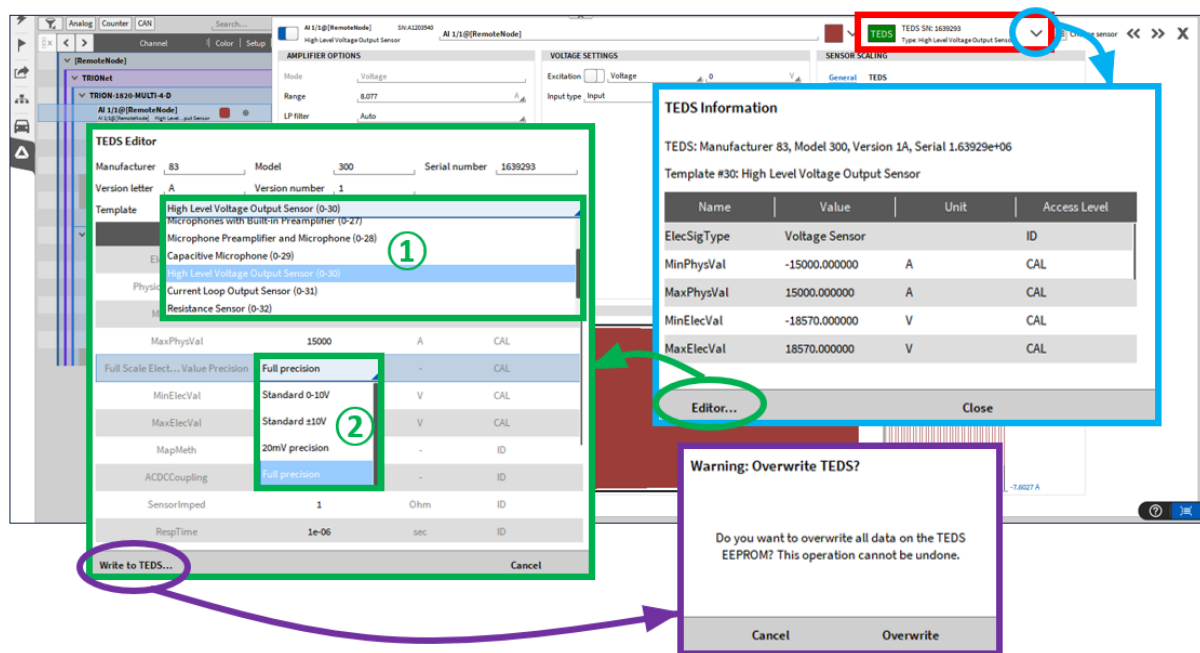

Fig. 7.213: Detailed Channel Settings with TEDS interface and TEDS editor
A detailed channel setting can be seen in Fig. 7.213. Depending on the type of sensor some settings might vary. The settings from the TEDS can be seen here and some settings can be adjusted manually, like the range. By clicking on the shown TEDS serial number, marked red in Fig. 7.213, all the TEDS information and settings can be seen (see blue frame in Fig. 7.213).
By clicking on "Editor" (see green circle in Fig. 7.213) the TEDS editor can be opened (see green frame) which offers the possibility to edit the stored data on the TEDS chip. It is possible to choose between a set of templates (see ① in Fig. 7.213) or to change the information stored on the TEDS chip manually (see ② in Fig. 7.213). When all changes are finished the information can be written to the TEDS chip, by clicking on "Write to TEDS" (see purple circle in Fig. 7.213). A window will pop up which asks for confirmation that the data should be written to the TEDS chip.
TEDS detection can also be disabled in the detailed settings by clicking on the green TEDS button (marked green in Fig. 7.213). This button has different colors depending on the state, which will be explained here: